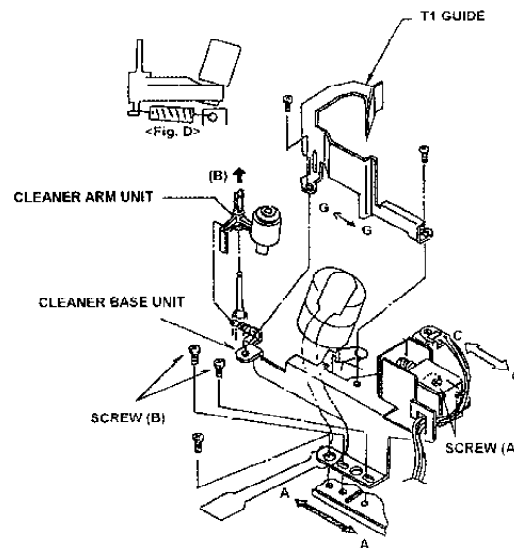

Fig.6-17-2 Cleaner Solenoid Position Adjustment (1)
2. Observe the clearance (D) between Cleaning Arm Unit and Cleaner Base Plate as shown in Figure 6-17-2. And make sure that it is within 0.5 to 0.7mm.
3. If not, loosen the 2 screws (A) and adjust the position of Cleaner Solenoid Unit by moving arrow direction (C→C) using the Eccentric drive so that the clearance (D) is within specification. And tighten the 2 screws.